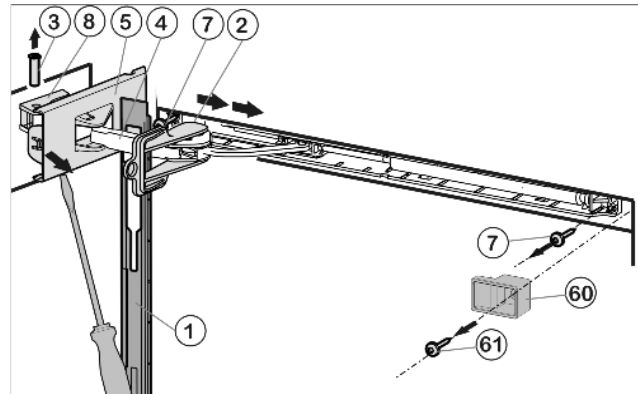

Fig. 26
- ▶ Push panel forward over the damper bracket Fig. 26 (4) in the direction of the appliance.
- ▶ Engage locking device Fig. 26 (2) into place inside oblong hole.
- ▶ Unscrew cover that is on the hinge side Fig. 26 (5) until the first notch using a screwdriver.
- ▶ Push bolt Fig. 26 (3) out from below.
- ▶ Press damper bracket Fig. 26 (4) in the direction of the door.
- ▶ Completely loosen cover that is on the hinge side *Fig. 26 (5)* and remove.
- ▶ Remove panel *Fig. 26 (1)*.
- ▶ Unscrew spacer *Fig. 26 (60)*.
- ▶ Unscrew soft stop unit (2 x Torx 15) *Fig. 26 (7)*.